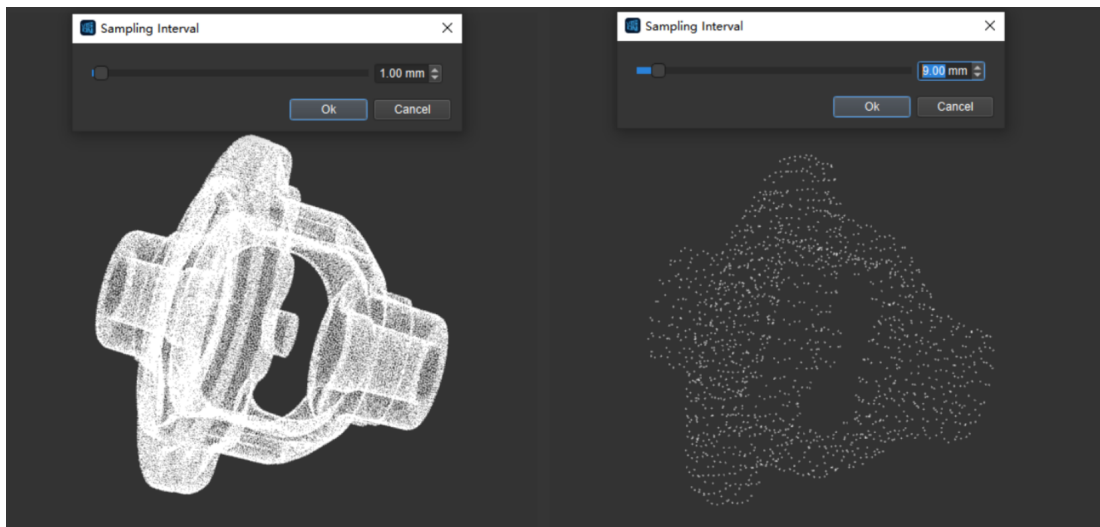

Figure 3. Point Cloud Downsampling
2. Set the appropriate sampling interval, click *Confirm*, the down-sampled point cloud will be automatically generated and the file name will be displayed in the point cloud list (at this time, the previously selected point cloud will be automatically hidden). The comparison of the point clouds before and after adjusting the sampling interval is shown in *Figure 3*.